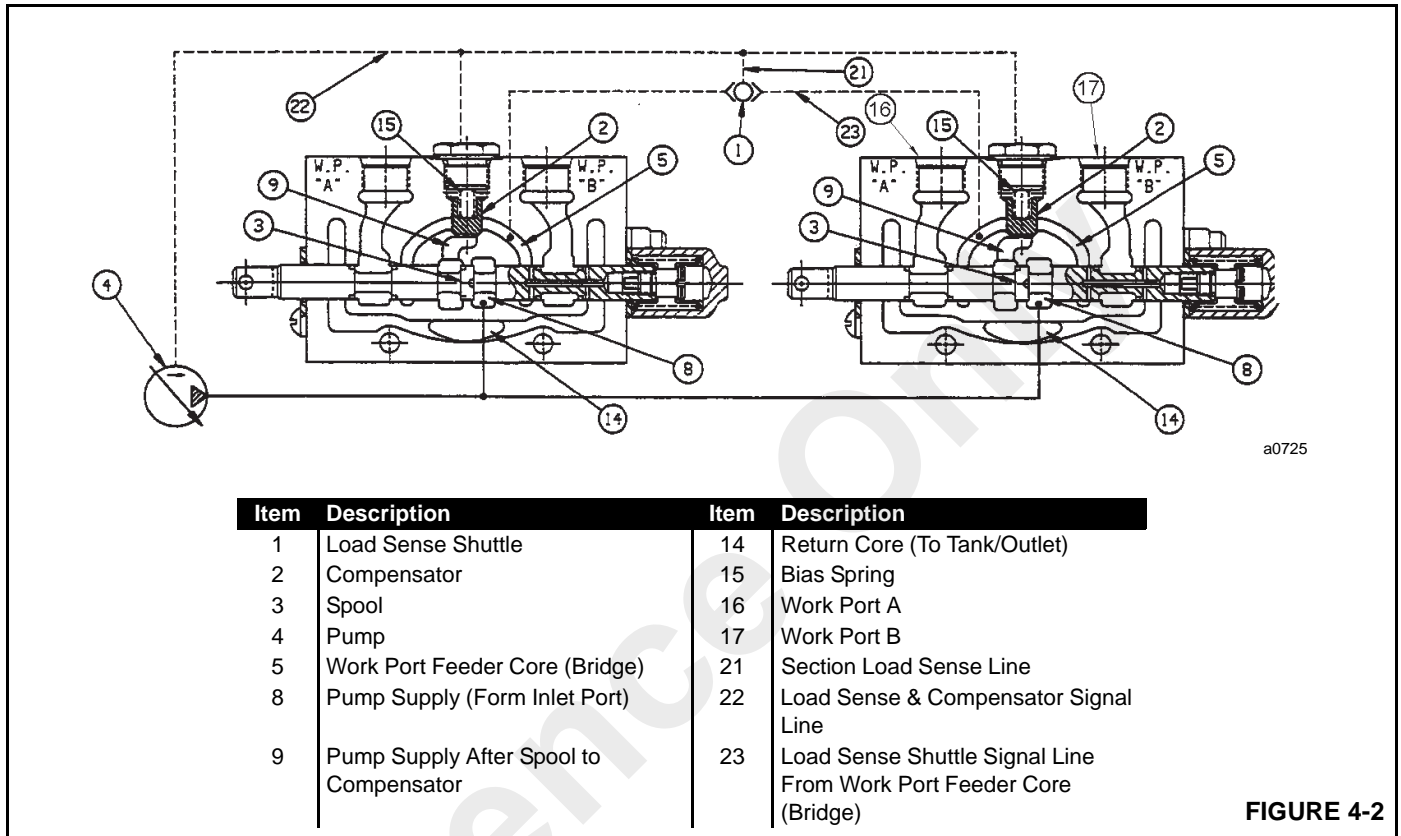

FIGURE 4-2
Figure 4-2 illustrates the interrelationship of the load sense shuttle (1), the compensator (2), the directional spool or variable orifice (3), combined with the variable displacement load sense pump (4).
The inlet section (Figure 4-2) is connected to the pressure side of the variable displacement load sense pump by a hydraulic hose. There is a load sense relief valve installed in the inlet section.
There are four working sections (Figure 4-2) of the main control valve that receive hydraulic oil from the variable displacement load sense pump. These sections control the hoist, telescope, lift and swing functions. They are closed-center sections, blocking any return of oil back to tank until
the valve spool is actuated to operate a function. Flow is then directed through the return core (14, Figure 4-2) to the outlet port of the inlet/outlet section and then to tank.